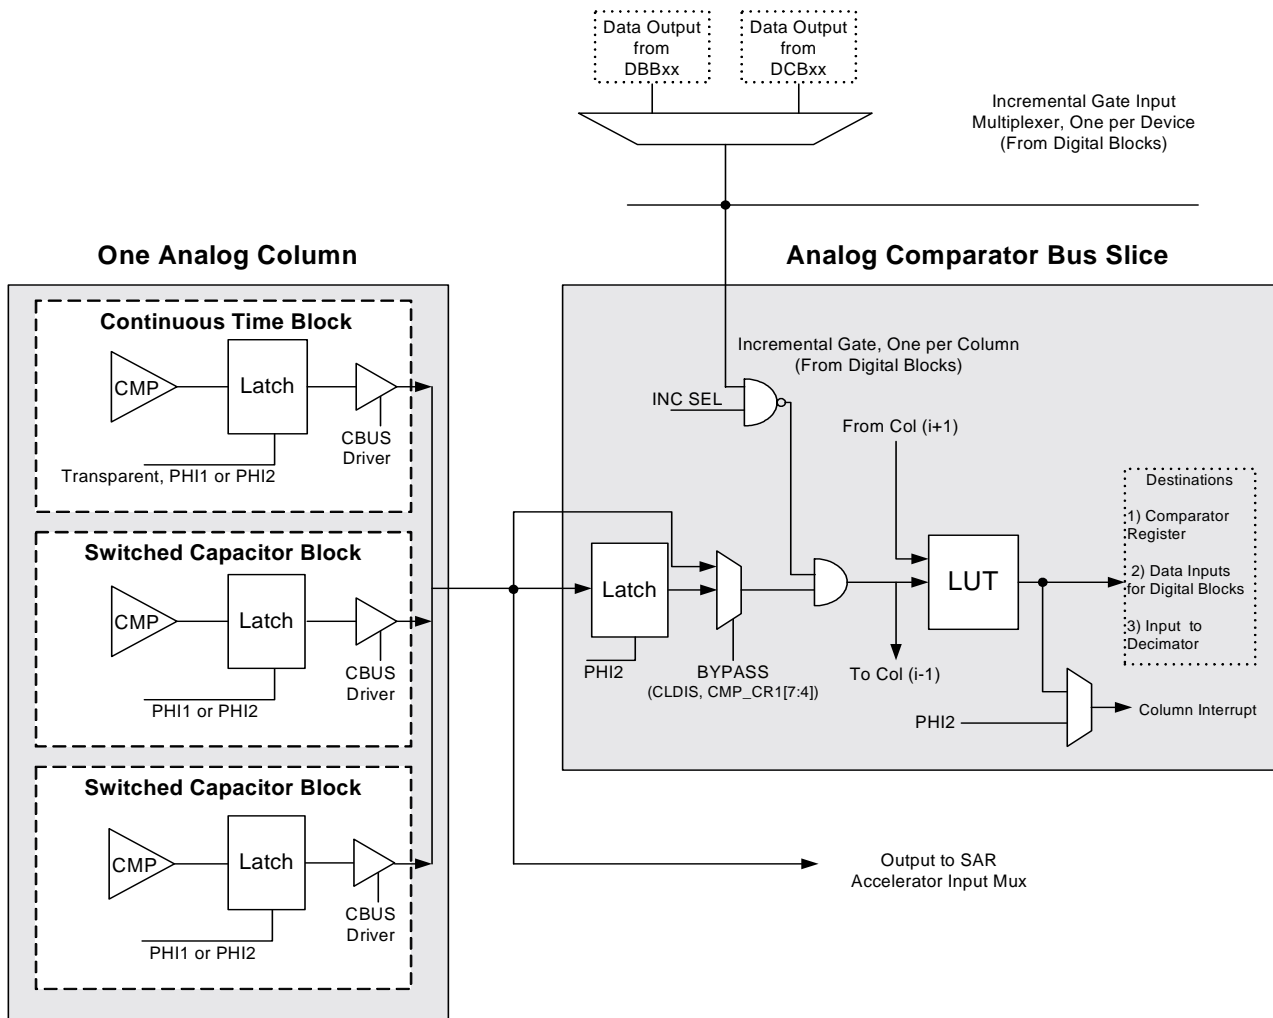

Figure 18-1. An Analog Comparator Bus Slice
Figure 18-1 displays the top-level diagram of the PSoC device's analog system.
Figure 18-1 illustrates one column of the comparator bus. In the Continuous Time (CT) analog blocks, the CPhase and CLatch bits of CT Block Control Register 2 determine whether the output signal on the comparator bus is latched
As shown in Figure 18-1, the Comparator bus output is gated by a signal from the digital blocks. This feature is used to precisely control the integration period of an incremental ADC. There are two direct connect digital block output options per row for driving the gate signal: DBBx1 and DCBx2. This selection may be made with the ICCKSEL bits in registers DEC\_CR0 and DEC\_CR1. This function may be enabled on a column-by-column basis by setting the IGEN bits in the DEC\_CR0 register.